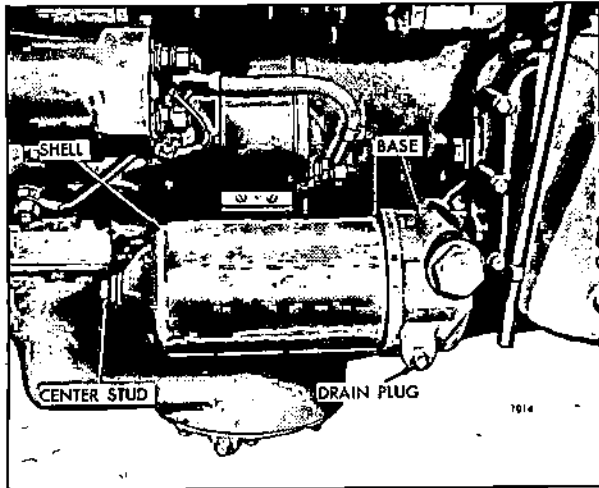

Fig. 10 - Typical Full Flow Filter Mounting
The full-flow filter assembly can be remotely mounted or mounted on the engine as shown in Fig. 10. A by-pass valve, which opens at 18 to 21 psi, is located in the filter base to ensure engine lubrication in the event the filter should become plugged.
1. Remove the drain plug and drain the oil. (Figs. 10 and 11).